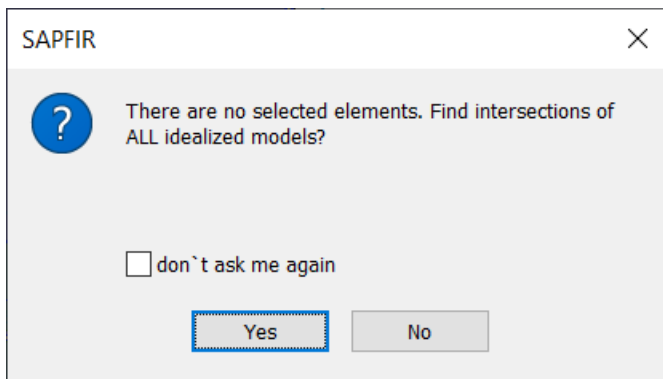

Figure 23.31. SAPFIR message box
- ⇒ In the SAPFIR message box (see Fig. 23.31), click **Yes**.